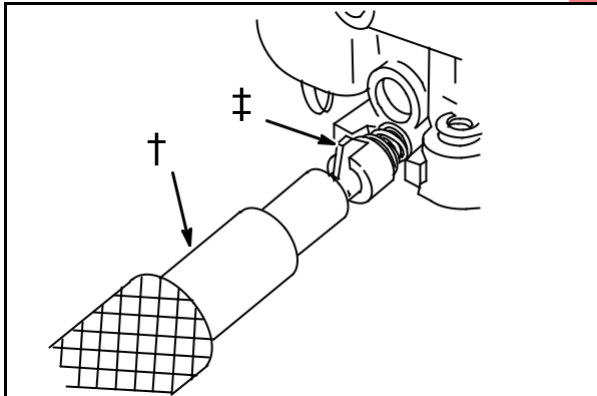

Fig. 17
Position limiter cap (7) so that stop on limiter cap is at mid point between stops on carburetor body, **Fig. 17**.